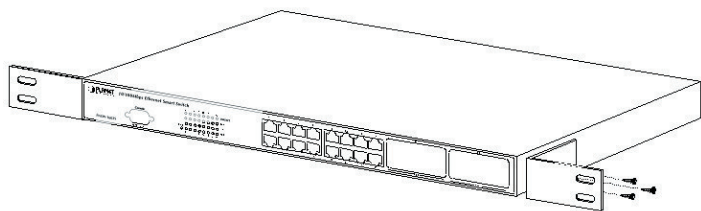

Figure 2-3 Attaching the brackets to the FNSW-1602S
Step 2: Attach a rack-mount bracket to each side of the switch with supplied screws attached to the package. Figure 2-3 shows how to attach brackets to one side of the switch.